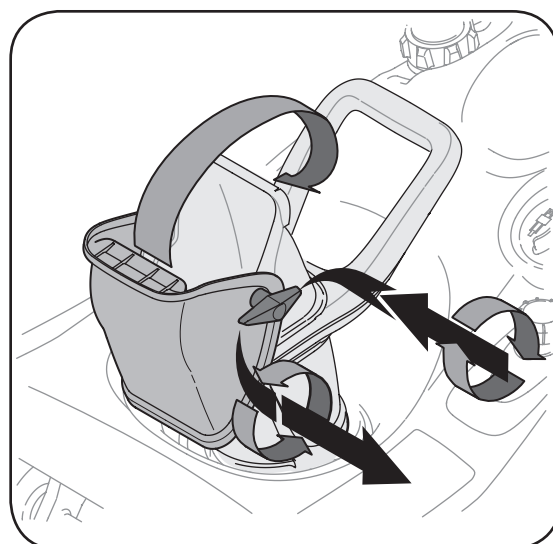

Figure 2
2. Remove the wing knob, flat washer and carriage bolt from the lower chute. See Figure 2.